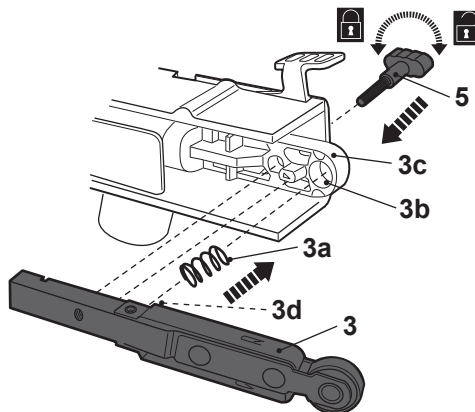

Fig. 1
- > Align the pin (3d) with the spring and attach the sanding arm (3) onto the support (3c).
- > Secure the connection by tightening the tracking adjustment knob (5) (Fig. 1).